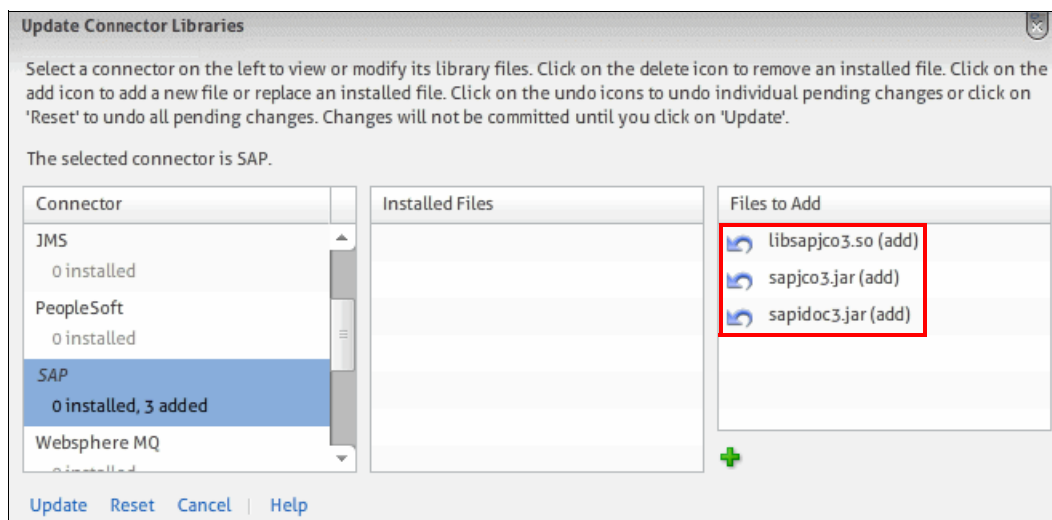

Figure 2-29 WMC install SAP libraries
4. Add the two SAP JCo version 3.x.Java libraries, sapjco3.jar and sapidoc3.jar, and the native SAP library, libsapjco3.so. The panel now looks as shown in Figure 2-29.